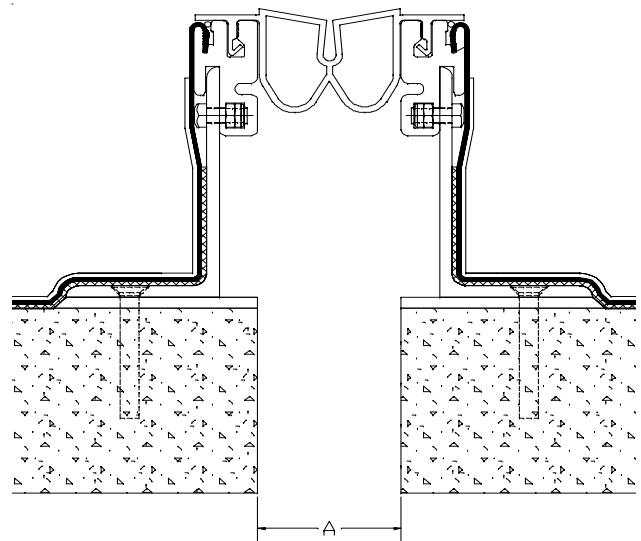

Figure 8
**STEP 9.** Select the Seal. Install the Seal into the base members by pressing one of its locking lugs into its respective channel in the base members. The Seal will snap into place when its lugs are fully inserted into the Base Member channels (see Figure 8).